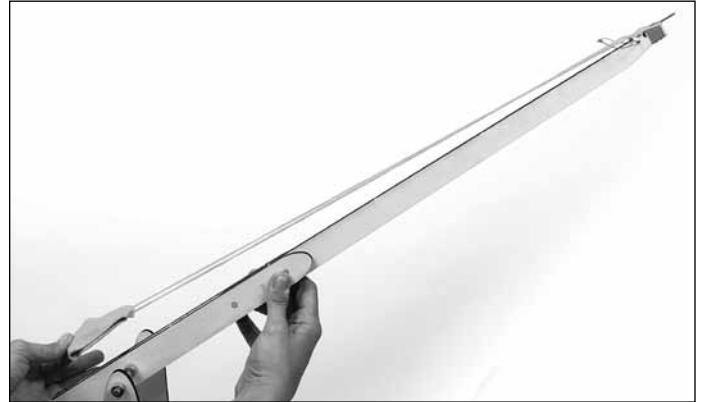

Figure 27
4. Take the free end of one side of the twine and tie a loop 1/2" to 3/4" long. Take the other end and thread it through the small hole at the hook end of the arm. Fold the sling and twine in half and tie a knot where the sling is in the middle (Figure 27). Do not glue the knots. When folded in half, it should be 20" to 24" long.